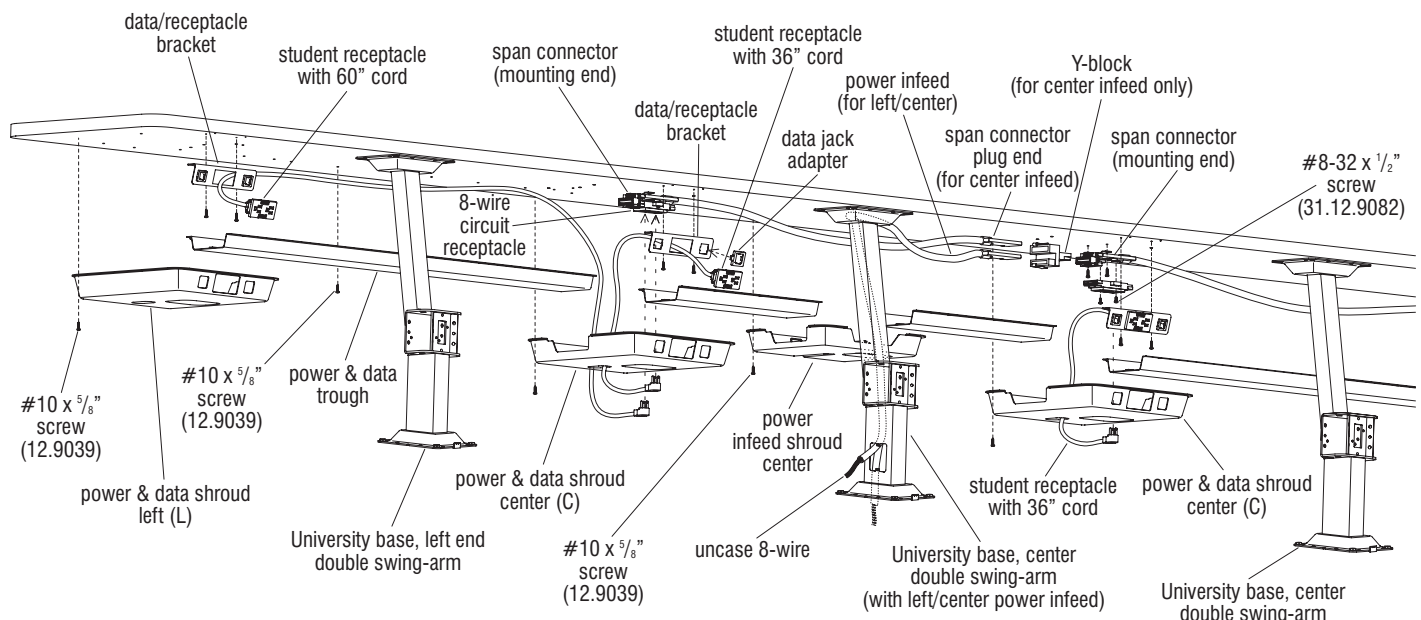

Figure 19 - Left & Center Power Infeed with Double Swing-arm Ends (Power Infeed Detail)
to 25 in/lbs. Allow the plug end to hang down for the time being (Figure 19 & Detail A).
73. As illustrated, for "center" power infeed, install a "Y-block" into the "mounting end" of the span connector which was just installed to the right of the power infeed base. Snap the plug-end of the power infeed into the bottom section of the Y-block (Figure 19).
74. Next, for center power infeed layouts, position the mounting end of a span connector up to the underside of the table top at the pre-drilled mounting location to the left of the center power infeed base. Secure the mounting end of the span connector to the underside of the table top using two #10 x 5/8" screws as illustrated. Torque screws to 25 in/lbs. Then snap the plug end of the span connector into the open port in the Y-block, installed in the previous step (Figure 19).
75. Per the space plan for center power infeed layouts, continue installing span connectors as in step 75 above, without need for any additional Y-blocks to connect span connectors together (Figure 19).
76. For "left" power infeed layouts, snap the plug end of the power infeed into the mounting end of the span connector which was just installed in step 72 (Figure 19).
77. Next, per the space-planning layout continue down the line to the right and install the mounting end of a span connector to the underside of the table top using two #10 x 5/8" screws as illustrated. Torque screws to 25 in/lbs. Snap the plug ends of the span connectors into the mounting ends as you go down the line (Figures 19 & 20, Detail B).
78. Follow correct circuit designations and install 8-wire circuit receptacles to the mounting end of all span connectors using two #8-32 x 1/2" screws provided. Torque screws to 20 in/lbs (Figures 19 & 20, Detail B).
80. Locate the mounting holes for the data/receptacle bracket (Details A & B). Install the data/receptacle bracket to the underside of the table top with two #10 x 5/8" screws torqued to 25 in/lbs (Figures 19 & 20).
81. Snap the appropriate style data jack adapters into the data receptacle bracket as illustrated. (See "Data Adapter Detail" on page 13 for identification of data adapter plates.) Per the space-planning layout, run data lines (customer supplied) up the appropriate base and then horizontally along the front, smaller partition of the power/data trough. Properly routed, the data lines will be separated from the line voltage flexible conduit by a divider in the power/data trough. Data line infeeds may be run up a University base in a different location than power infeed, but will use a power infeed shroud the same as in power infeed locations (Figures 19 & 20). From behind the
Important: Data/receptacle bracket locations at the end of "double swing-arm" University table tops must use a student receptacle with a 60" long cord. At all other data/receptacle bracket locations, a student receptacle with a 36" cord is to be used. Install student receptacles by first routing the cord through the opening in the data/receptacle bracket, then snap the receptacle into place. Allow 36" long receptacle cords to hang down until a later step. Take the 60" long cords and route them through the power/data trough, toward the appropriate 8-wire circuit receptacle and allow the plug end to hang down until a later step (Figures 19 & 20).
Note: There are three types of power & data shrouds for double swing-arm end configurations which may be specified on the space-planning layout. All of these shrouds have cut-outs facing the student side for the student receptacle/data jacks and two cut-outs at the bottom, one for the 8-wire circuit receptacle, and the other for routing the cord of the student receptacle(s) through, to loop back and plug into the circuit receptacle. **"Center (C) power & data shrouds"** have a cut-out at each side of the shroud for power/data troughs. **"Left (L) power & data shrouds"** have both cut-outs at the bottom, the cut-out facing the student, and only one cut-out at the right-hand side for a power/data trough. **"Right (R) power & data shrouds"** have both cut-outs at the bottom, the cut-out facing the student, and only one cut-out at the left-hand side for a power/data trough (Figures 19 & 20).
84. Following the space-planning layout, locate the correct position for various power & data shrouds along the run of table tops. For "center" (C) shrouds, position the shroud up to the table top and allow the cord of the student receptacle(s) to drop down through the front-most cut-out as illustrated. Both the student receptacle and data jacks, as well as the bottom-facing circuit receptacle should protrude through their appropriate cut-outs in the shroud. For "left" (L) and "right" (R) shroud, only the student receptacle and data jacks will protrude through the cut-outs. Secure all power and data shrouds to the underside of the table top using #10 x 5/8" screws
torqued to 25 in/lbs in pre-drilled holes at the underside of the table top (Figures 19 & 20 and Details B & C).
85. At "center" (C) power & data shroud locations, loop the hanging cord and insert the plug end of the student receptacle into the bottom-facing circuit receptacle. Push any excess cord back into the shroud and out of the way.
86. At the power infeed location, position the power infeed shroud (center, with cut-outs on each side for power/data troughs) up into position, making sure the troughs fit into it correctly and that the shroud back mates correctly with the base's upper mounting flange. With a pencil, mark the mounting hole locations, then use a 1/8" diameter drill bit and pre-drill to 1/2" depth, taking care to not penetrate the table top. Install power infeed shroud using #10 x 5/8" screws provided torqued to 25 in/lbs (Figures 19 & 20).